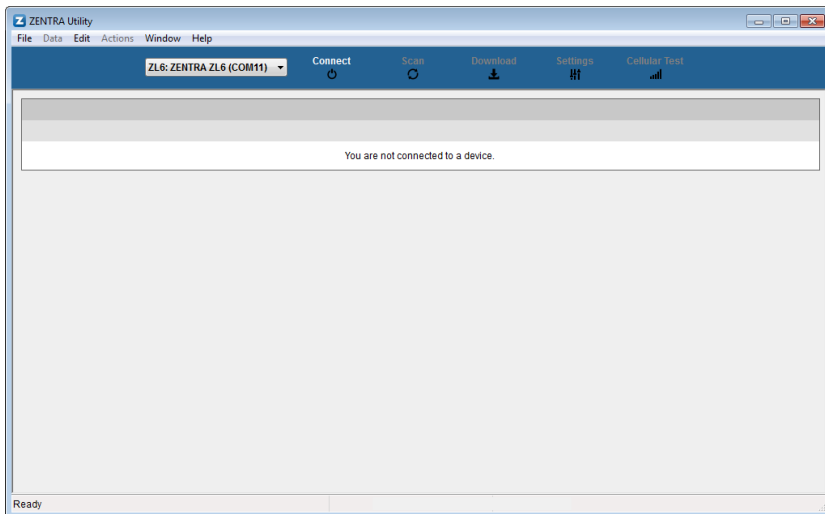

Figure 1 ZENTRA Utility initial screen with ZL6 in COM port dropdown
2. Open the ZENTRA Utility application (Figure 1).